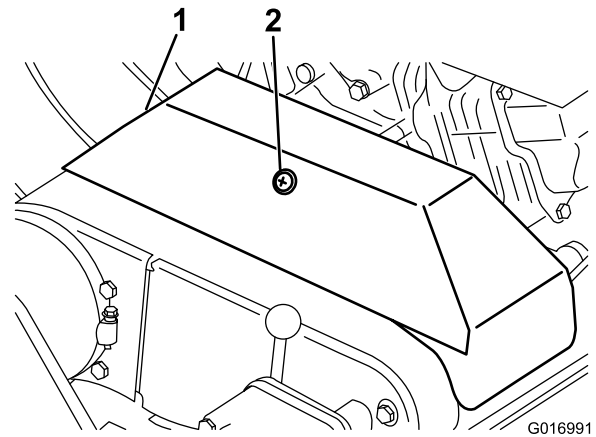

Figure 40
- Loosen the retainer securing the V-belt cover and pivot the cover open (Figure 40).
2. Loosen the retainer securing the V-belt cover and pivot the cover open (Figure 40).